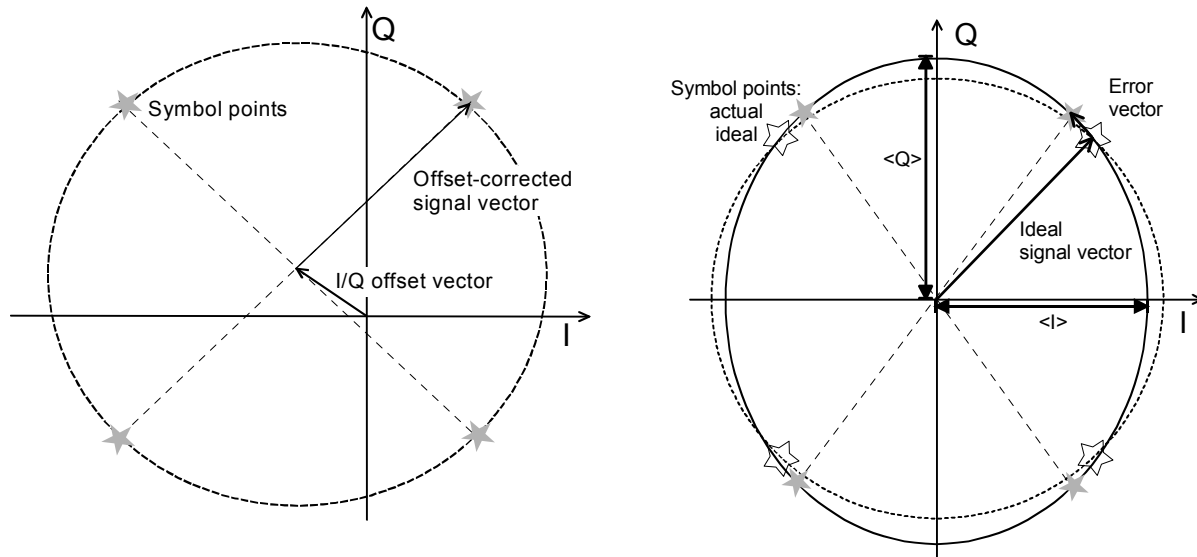

Fig. 4-4 Modulation errors in the I/Q constellation diagram
**I/Q Origin Offset** Origin offset in the I/Q constellation diagram reflecting a DC offset in the baseband signal (see Fig. 4-4 on page 4.11 and Equation 4-1). The origin offset corresponds to a RF carrier feedthrough in spectral representation.
**I/Q Imbalance** Amplitude difference between the in-phase (I) to the quadrature (Q) components of the measured signal, normalized and logarithmized (see Fig. 4-4 on page 4.11 and Equation 4-2). The I/Q imbalance corresponds to an unwanted signal in the opposite sideband in spectral representation.
*Fig. 4-4* is an idealized representation of the modulation errors where the effects of a pure origin offset (left diagram) and of a pure I/Q imbalance (right diagram) are completely disentangled. The I/Q offset in dB is the logarithmic ratio of the I/Q offset vector (i.e. the estimated DC-offset of the measured signal) to the RMS value of the varied reference signal  $R'$ .